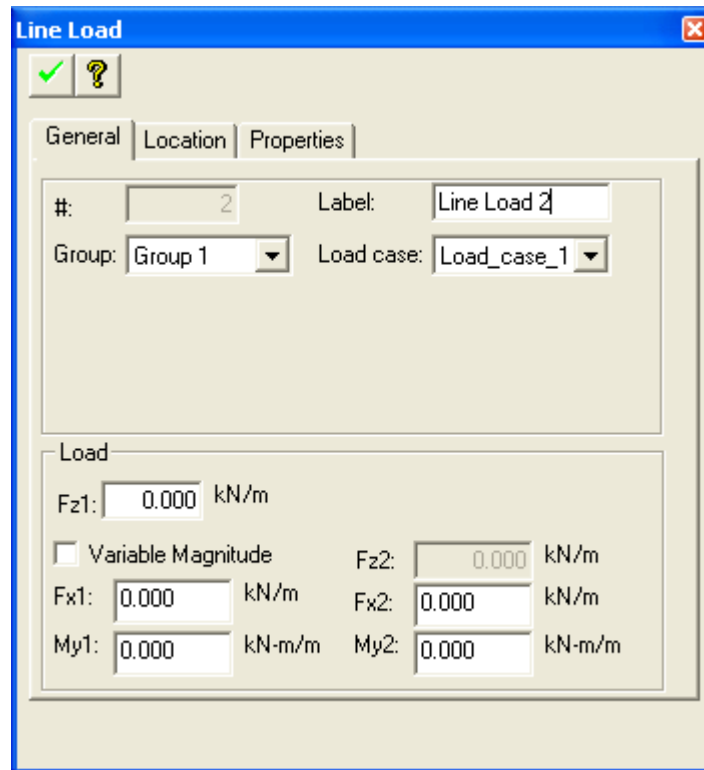

FIGURE 2.20-2 LINE LOAD DIALOG BOX
**Create Line Load.** This tool creates a new line load with the properties shown in Fig. 2.20-2. Line loads can consist of a constant or variable force along the length of the line with or without constant or variable moment  $M_{yy}$  along the same line. The moments are specified about the global axis.